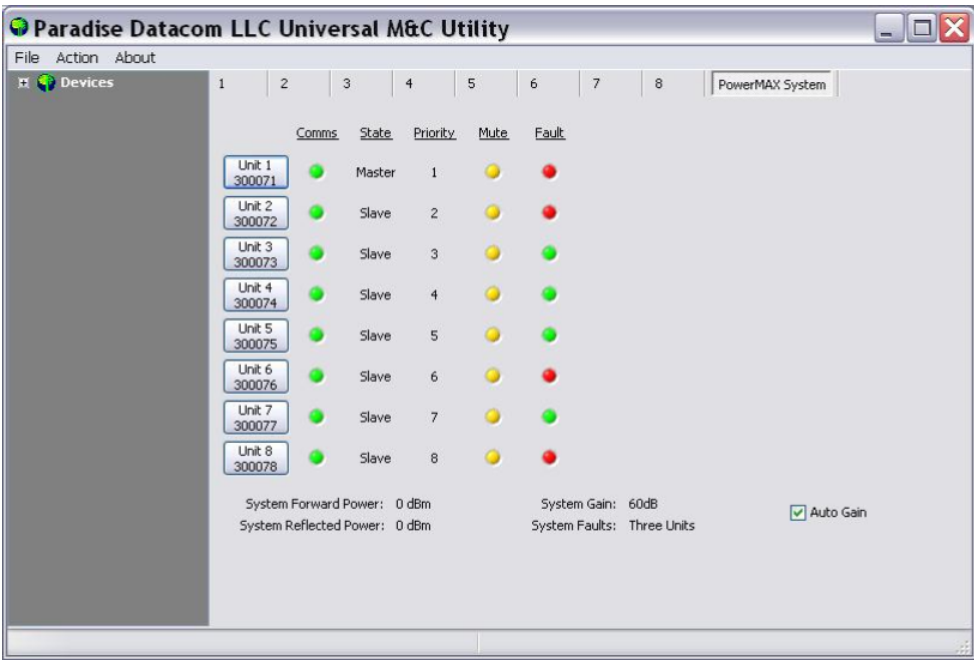

Figure 28: N+1 System Tab
The N+1 System tab displays an overview of each unit in the system, and overall system performance. The Universal M&C screen shown in Figure 28 displays the N+1 system tab (labeled PowerMAX System), as well as tabs for each of the eight (8) SSPA units (labeled 1, 2, 3, 4, 5, 6, 7 and 8) being monitored.